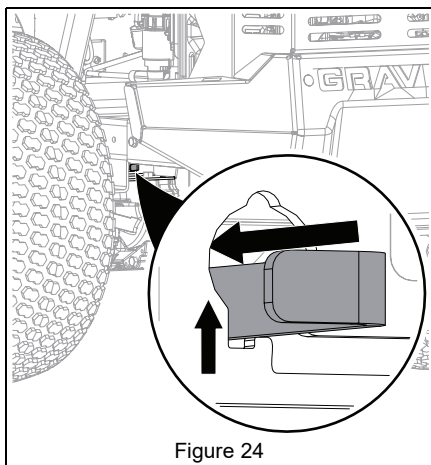

Figure 24
6. Lift bypass levers up slightly and push into operating position. See Figure 24.